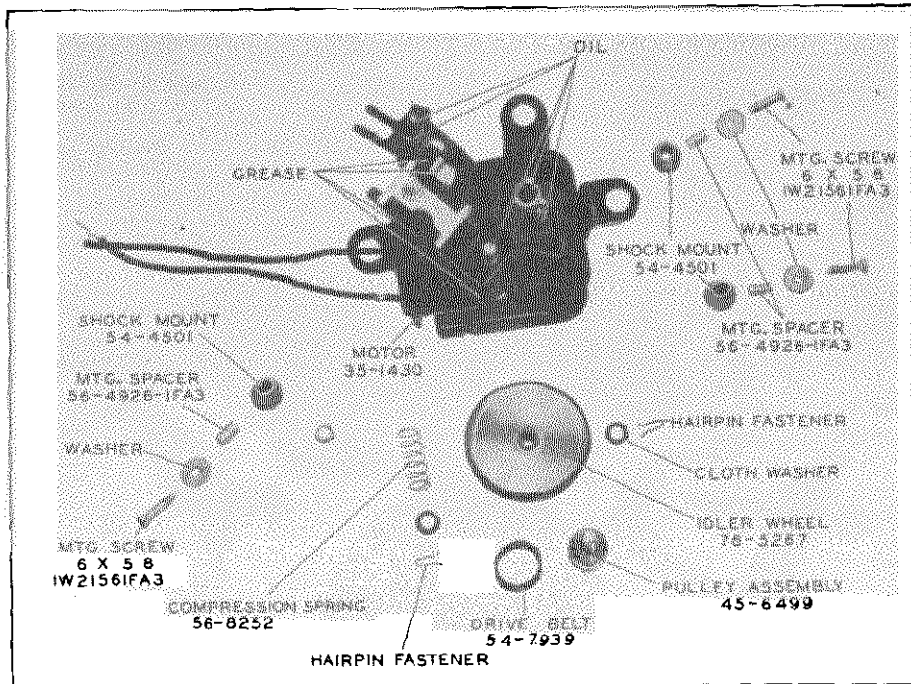

Figure 11. Motor Assembly—Part No. 35-1451 TP9-204
- Figures 11, 12, and 13 show motor assembly.